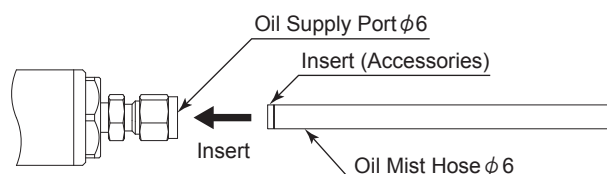

Fig. 16
(2) Insert the Oil Mist Hose of (1) into the Oil Supply Port ( $\phi 6$ ) on the rear of the Brushless Motor Spindle (Fig.16).